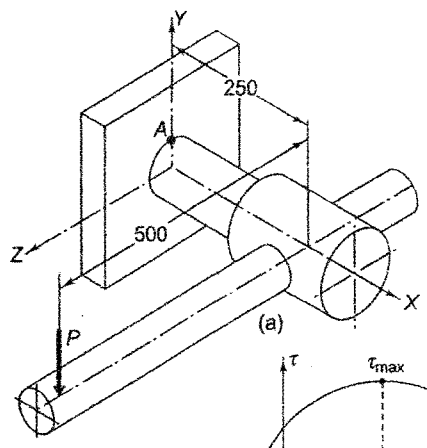

Fig.3
6. The shaft of an overhang crank subjected to a force 'P' of 1 kN is shown in Fig.3. The shaft is made of plain carbon steel 45C8 and the tensile yield strength is 380 N/mm^2 . The factor of safety is 2. Determine the diameter of the shaft using the maximum shear stress theory.